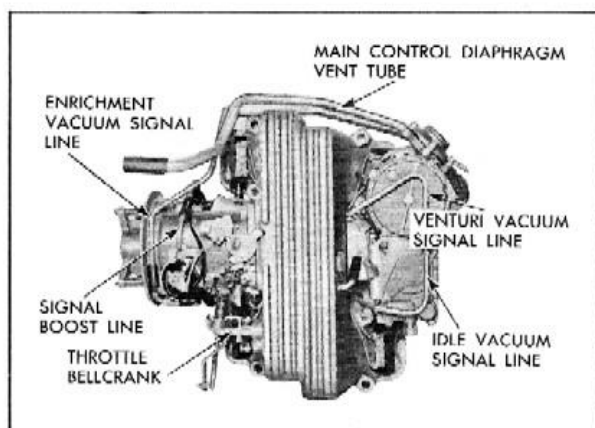

Fig. 8 Signal and Fuel Meter Vent Lines
1. Remove enrichment vacuum signal line by disconnecting at the rubber sleeve at the cold enrichment housing on the air meter and at the enrichment diaphragm on the fuel meter, Fig. 8.